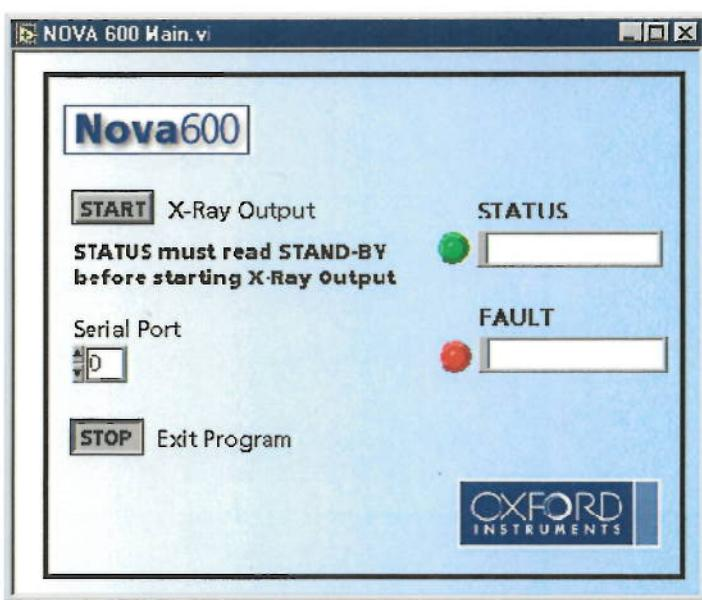

Figure 1
- 3) Launch the controller program. The virtual instrument front panel in **Figure 1** will appear on the monitor. When the status reaches STAND-BY, the green START button may be pressed to start X-ray output. The virtual instrument front panel shown in **Figure 2** will pop-up on the monitor.
- 4) The High Voltage (kV) and Brightness (W) can each be adjusted in three independent ways: